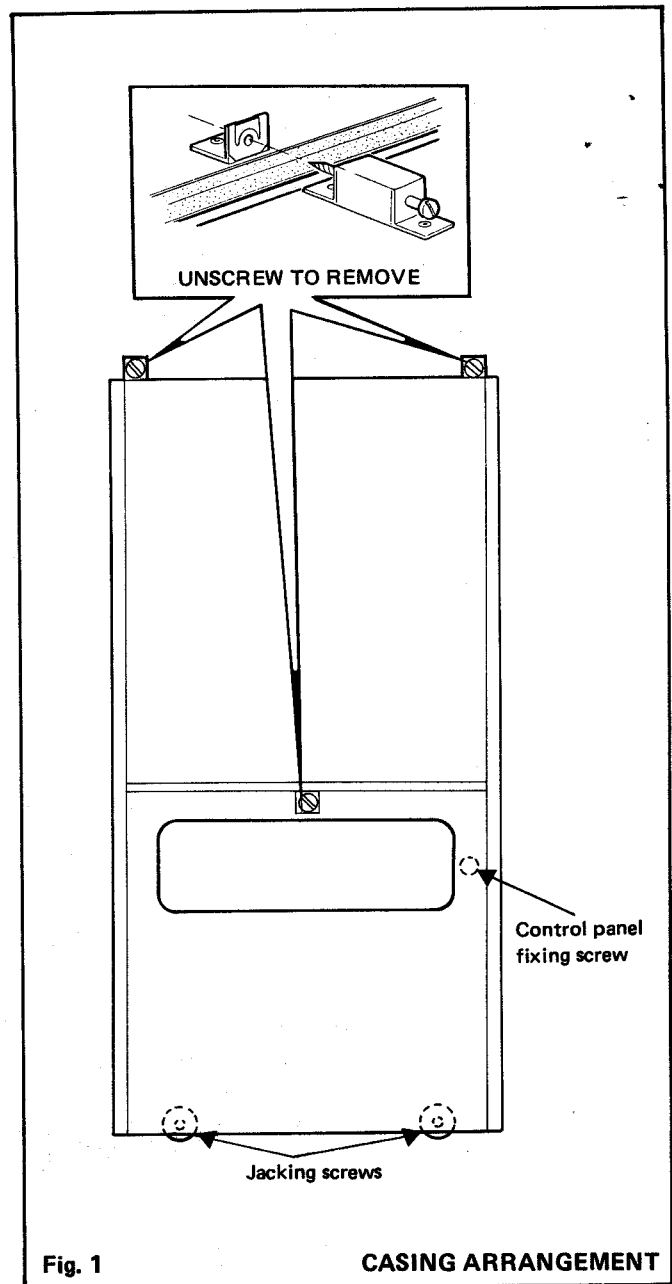

Fig. 1
Two jacking screws, located at the bottom of the boiler back panel, are provided to facilitate boiler alignment – refer Fig.1.
2. Release the two captive screws at the top of the casing and the single captive screw within the controls compartment. Lift the casing off the boiler (refer to Fig. 1) and take care not to damage the glass fascia panel.
Using the jacking screws located at the bottom of the boiler back panel (refer Fig. 1) adjust as necessary until the flue duct is horizontal or sloping slightly downwards – away from the boiler. Check the alignments with a spirit level.